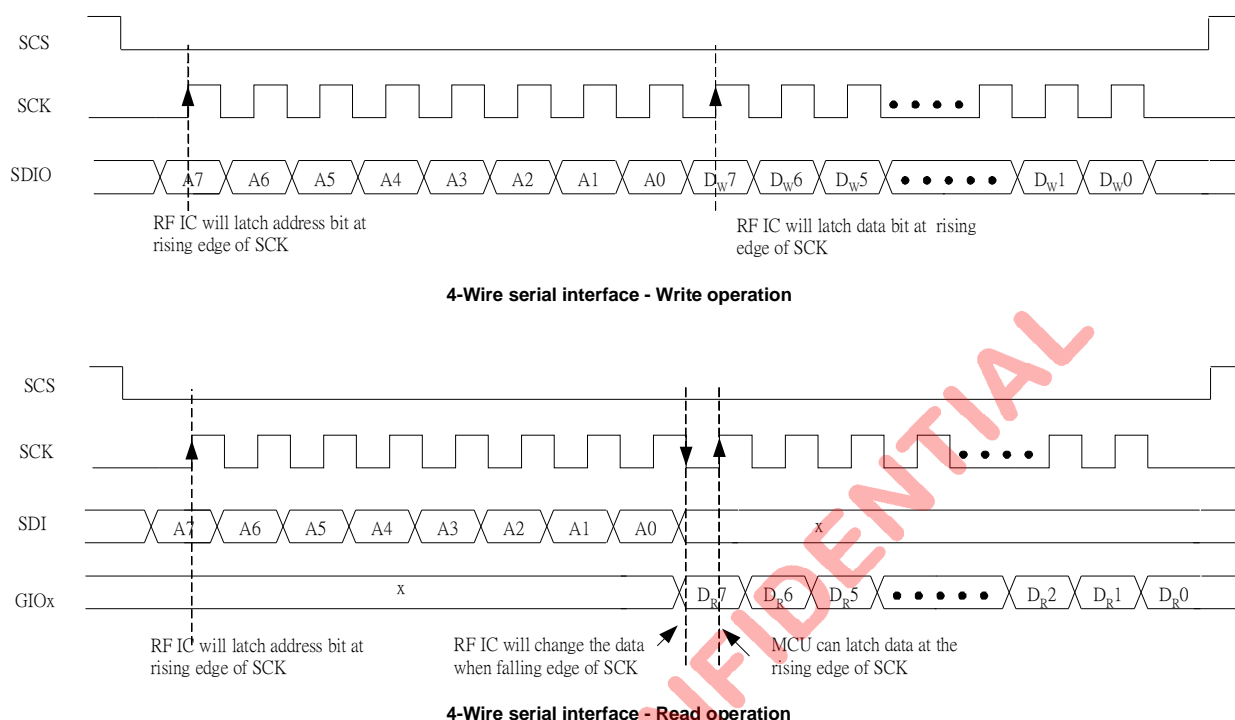

Figure 10.3 Read/Write Timing Chart of 4-Wire SPI
The first bit (A7) is critical to indicate A7153 the following instruction whether “Strobe command” or “control register”. See Table 10.1 for SPI format. Based on Table 10.1, if A7=0, A7153 is informed for control register accessing. So, A6 bit is used to indicate read (A6=1) or write operation (A6=0). See Figure 10.2 and Figure 10.3 for details.
**Data Byte [7:0]:** SPI input or output data, see Figure 10.2 and Figure 10.3 for details.